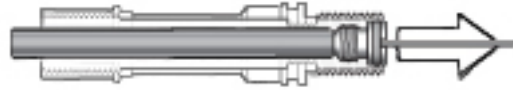

Figure 14 - Removal of crown
15. When the crown threads have been disengaged from the valve body, carefully insert the pin of the seat extraction tool (PN 109436) through the squared end of the valve body and through the opening in the center of the crown. Gently press the crown out (see Figure 14). Remove and discard the O-ring (26).